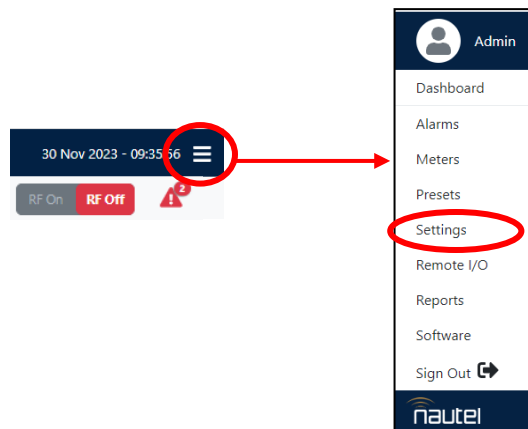

Figure 5: Main Menu for HTML5-based Remote AUI
- (j) Click the remote AUI's Main Menu icon (☰) in the top right of the AUI dashboard (see Figure 5) to display the main menu options.